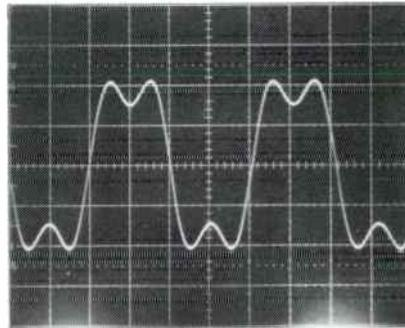

Fig. E-4: 4.4kHz OVERDRIVEN FCS OUTPUT
- 4) Increase the oscillator output 4dB. Substantial clipping should occur. Now sweep the oscillator frequency upward, and verify that the peak level of the output waveform never exceeds the "flat-top" level of the 100Hz clipped sine wave by more than 0.7dB, and that this 0.7dB peak occurs at approximately 4.4kHz. At this frequency, the waveform should resemble a filtered square wave with two equal cycles of ringing on the top and bottom of the wave (Fig. E-4). If substantially more than 0.7dB overshoot occurs, particularly if the ringing is not symmetrical, then suspect problems in the filters or phase-shift networks associated with the FCS circuit.